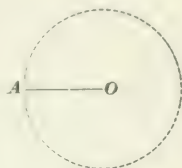

FIG. 40.
69. The **radius** of a circle, AO (Fig. 40), is a straight line drawn from the center O to the circumference. It is equal in length to one-half the diameter. The plural of radius is **radii**, and all radii of a circle are equal.